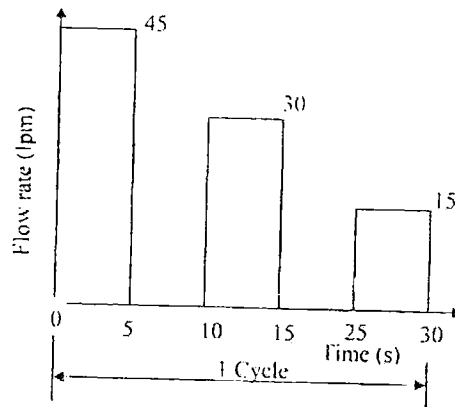

Fig. 3
- (b) (i) List the advantages and limitations of a spring loaded accumulator. (4)
- (ii) A pump/accumulator power pack is to supply the fluid flow demanded by a hydraulic system as shown in Fig.3. The system working pressure is 125 bar and the maximum pressure at the accumulator is 200 bar. Assuming the accumulator precharge pressure is 90% of its maximum working pressure, determine
- (1) the actual pump delivery required
- (2) the maximum volume of fluid to be stored in the accumulator
- (3) the accumulator volume assuming an isothermal charge and discharge of the accumulator. (12)